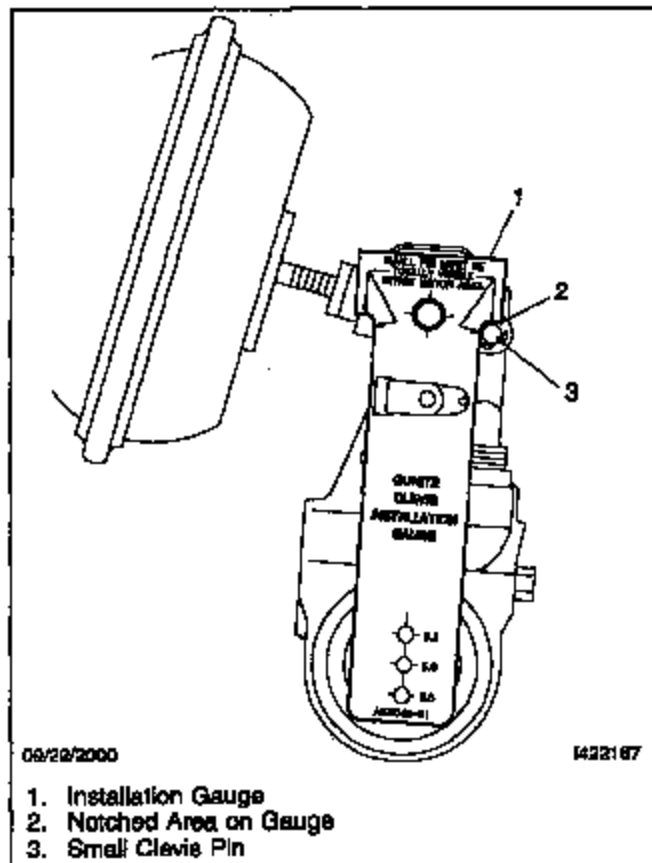

Fig. 5, Clevis Adjustment
6. Using the gauge supplied with the new slack adjuster, adjust the clevis. See Fig. 5.